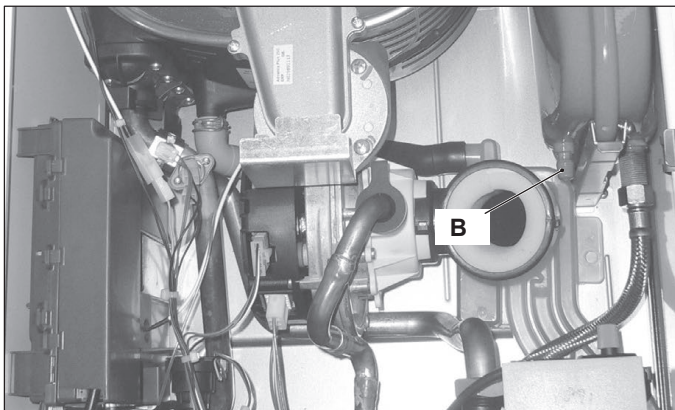

Figure 13.2
- 2 Remove the protective cap "B" in Figure 13.2 from the valve on the top of the expansion vessel and connect a suitable air pressure gauge.